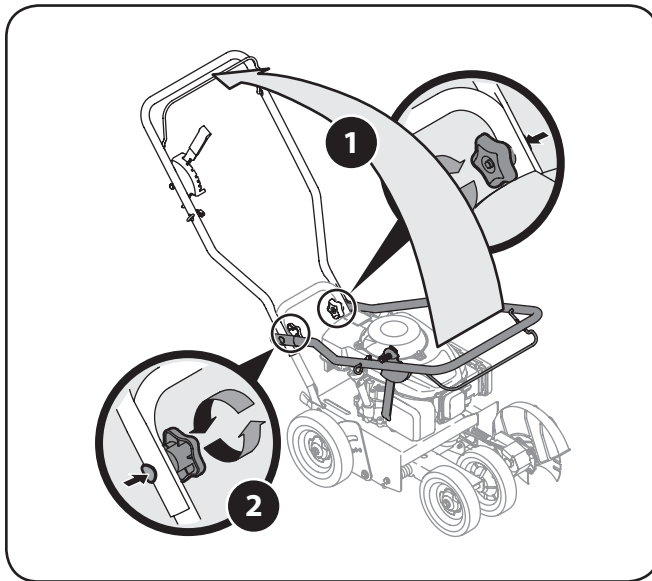

Figure 3-1
1. Pivot the upper handle upward until it snaps into place. See Figure 3-1.